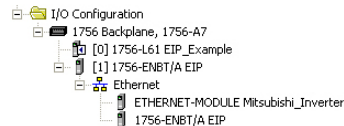

Figure 85: I/O Configuration Tree
- 6) After adding the I/O Module to the configuration, the full I/O Configuration tree should appear similar to Figure 85.